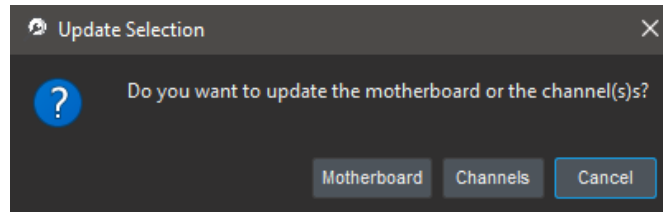

Figure 2.15: *Doric Maintenance Tool Update Selection*
7. A window asks you to choose between **Motherboard** or **Channels** to update (if you need to update both, select one of the both and repeat the process after the end of the first update) (Fig. 2.15).